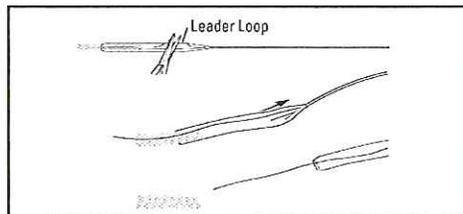

Figure 4: Tension Mesh/Sleeve Removal
3. Once proper tension is achieved, cut the leader loop that is on the outside of the sleeve that is connecting the dilator leg and sleeve to the mesh. Pull outward on the dilator to remove the sleeve leaving the mesh in place. Repeat on the other side. (See Figure 4).